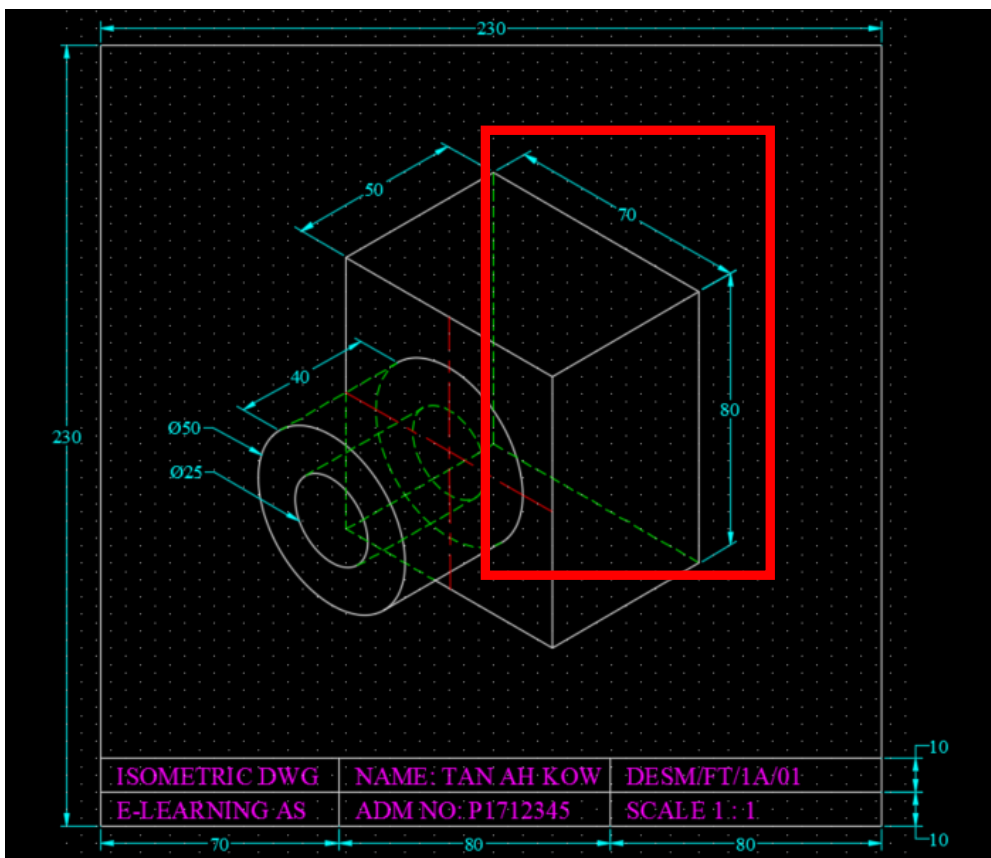

FIG 17
18. Next, dimension Oblique for 70mm and 80mm with obliquing angle 30 degrees as shown in Fig 17: